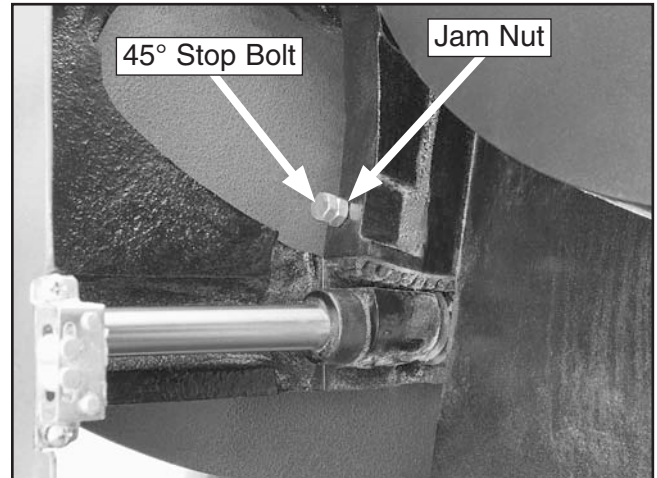

Figure 107. 45° stop bolt and jam nut.
6. Loosen the jam nut on the 45° stop bolt (see **Figure 107**) then adjust the stop bolt in or out according to how far off the blade was from 45°.